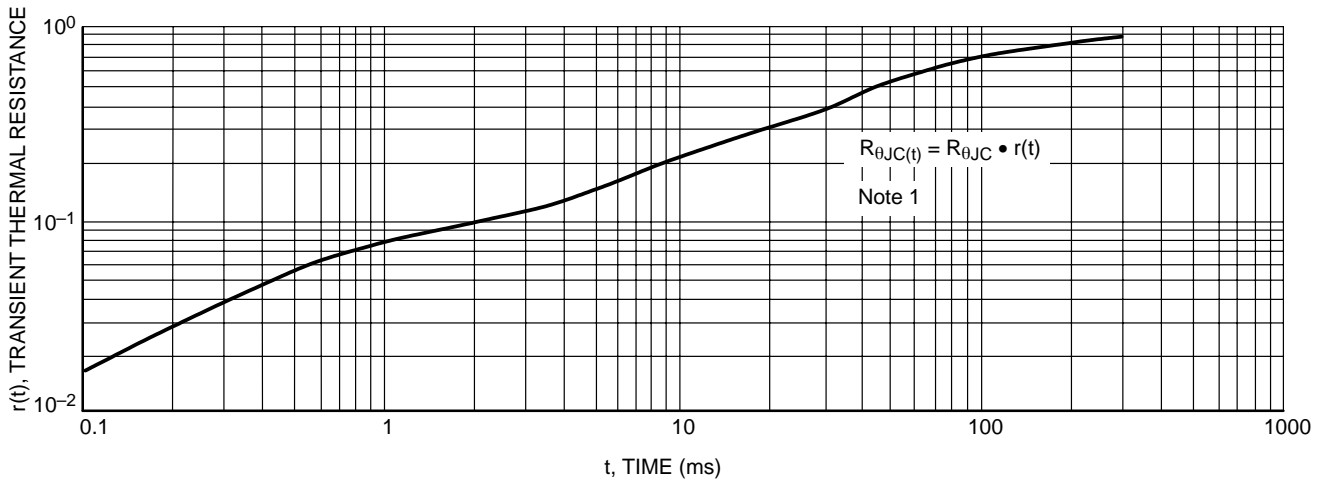

Figure 6. Thermal Response
- $r(t)$ = normalized value of transient thermal resistance at time, t , from Figure 6, i.e.: